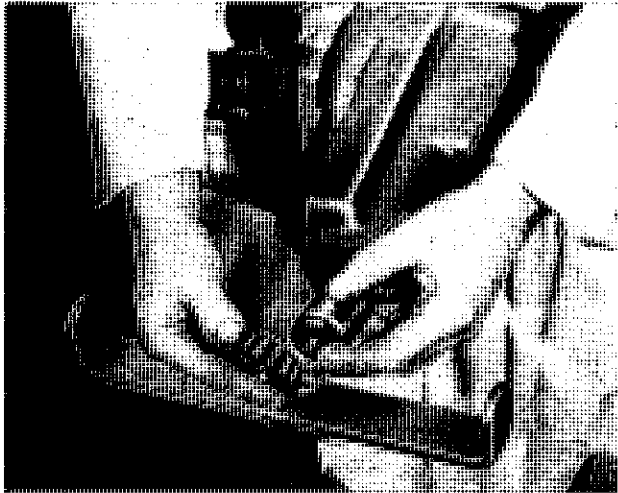

Fig. 20. Correct Position for assembly Bearing Spacer, Shims and Tail Bearing Inner Cone.
10. The bearing spacer is threaded on to the pinion shaft with the chamfer outwards as shown in Fig. 20 and the shims, previously removed when dismantling the axle, are placed in position on the pinion and the assembly fitted into the axle casing. The thickness of shims fitted will probably have to be adjusted to provide the correct preload figure.